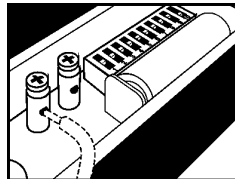

Figure 2
- To change to the other tone, remove the cover of the doorbell button and reverse the positions of Dip switches 9 and 10. (Figure 2.)